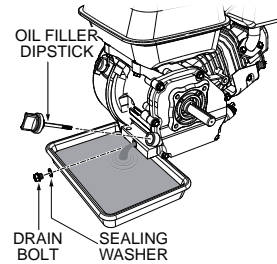

Figure 19. Engine Oil (Draining)
- Drain the engine oil when the oil is warm as shown in Figure 19.